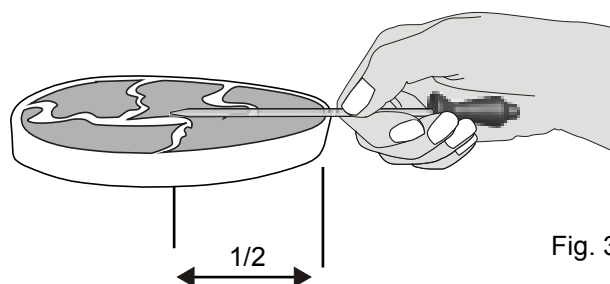

Fig. 3
- For bone-in ham or lamb, insert the probe into the center of the lowest large muscle or joint. For dishes such as meat loaf or casseroles, insert the probe into the center of the food. To find the center of the food visually measure with the probe -Fig. 3-. When cooking fish, insert the probe just above the gill.